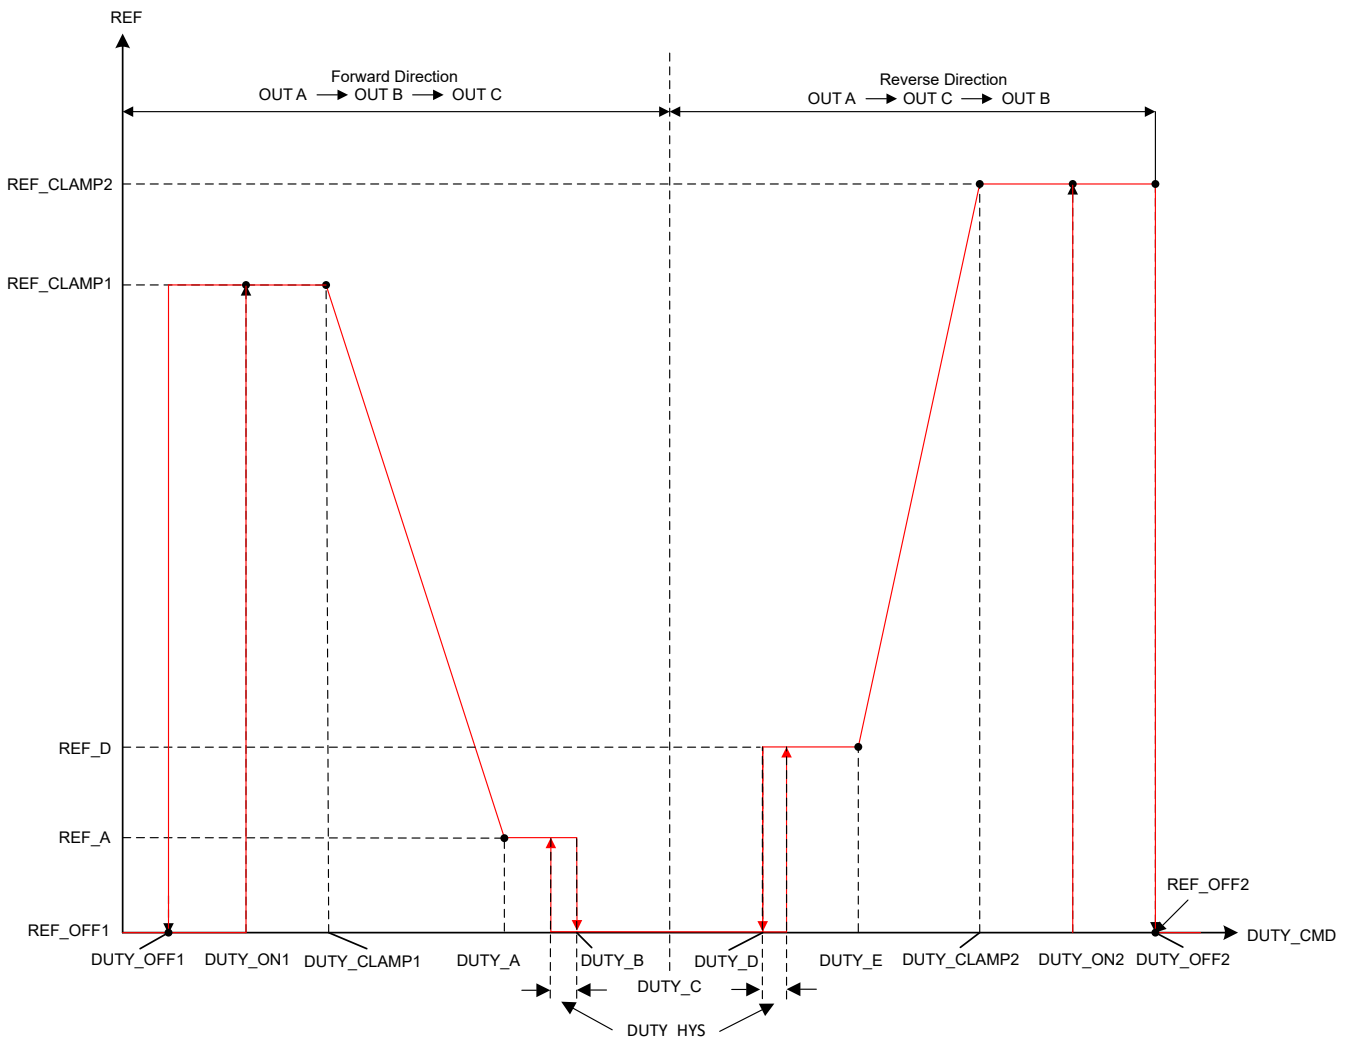

Figure 6-20. Forward Reverse Control Profiles
- DUTY_OFF1 and DUTY_ON1 configures a hysteresis around reference control input REF_CLAMP1 and REF_OFF1 as shown in Figure 6-20.
- DUTY_A configures the duty command for reference REF_A. The reference changes linearly between DUTY_CLAMP1 and DUTY_A. DUTY_A to DUTY_E has to be in the same order as shown in Figure 6-20.
- DUTY_OFF2 and DUTY_ON2 configures a hysteresis around reference control input REF_CLAMP2 and REF_OFF2 as shown in Figure 6-20.